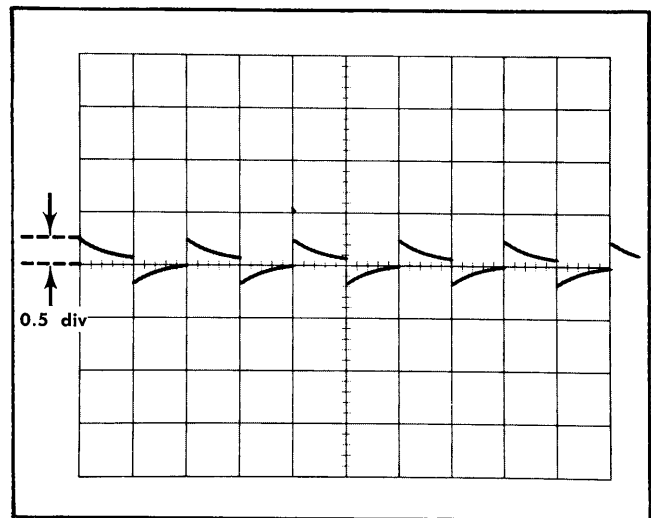

Fig. 5-20. Typical CRT display when checking calibrator current.
- e. CHECK—CRT display is 0.5 division in amplitude (ten milliamperes; see Fig. 5-20).